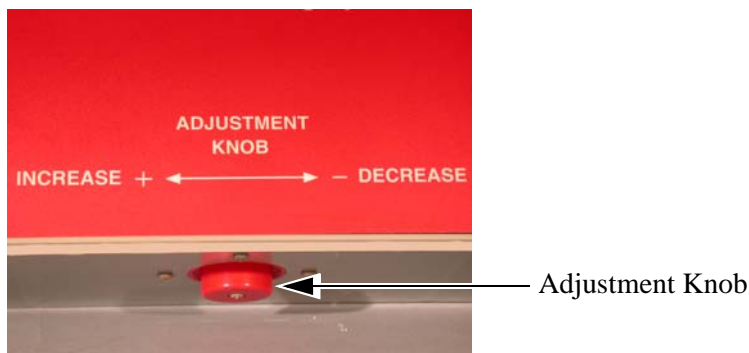

Figure 10. Adjustment Knob
**BEFORE** connecting the compressed air supply to the Control, turn the red adjustment knob clockwise (Decrease) until the knob stops turning see figure 10..